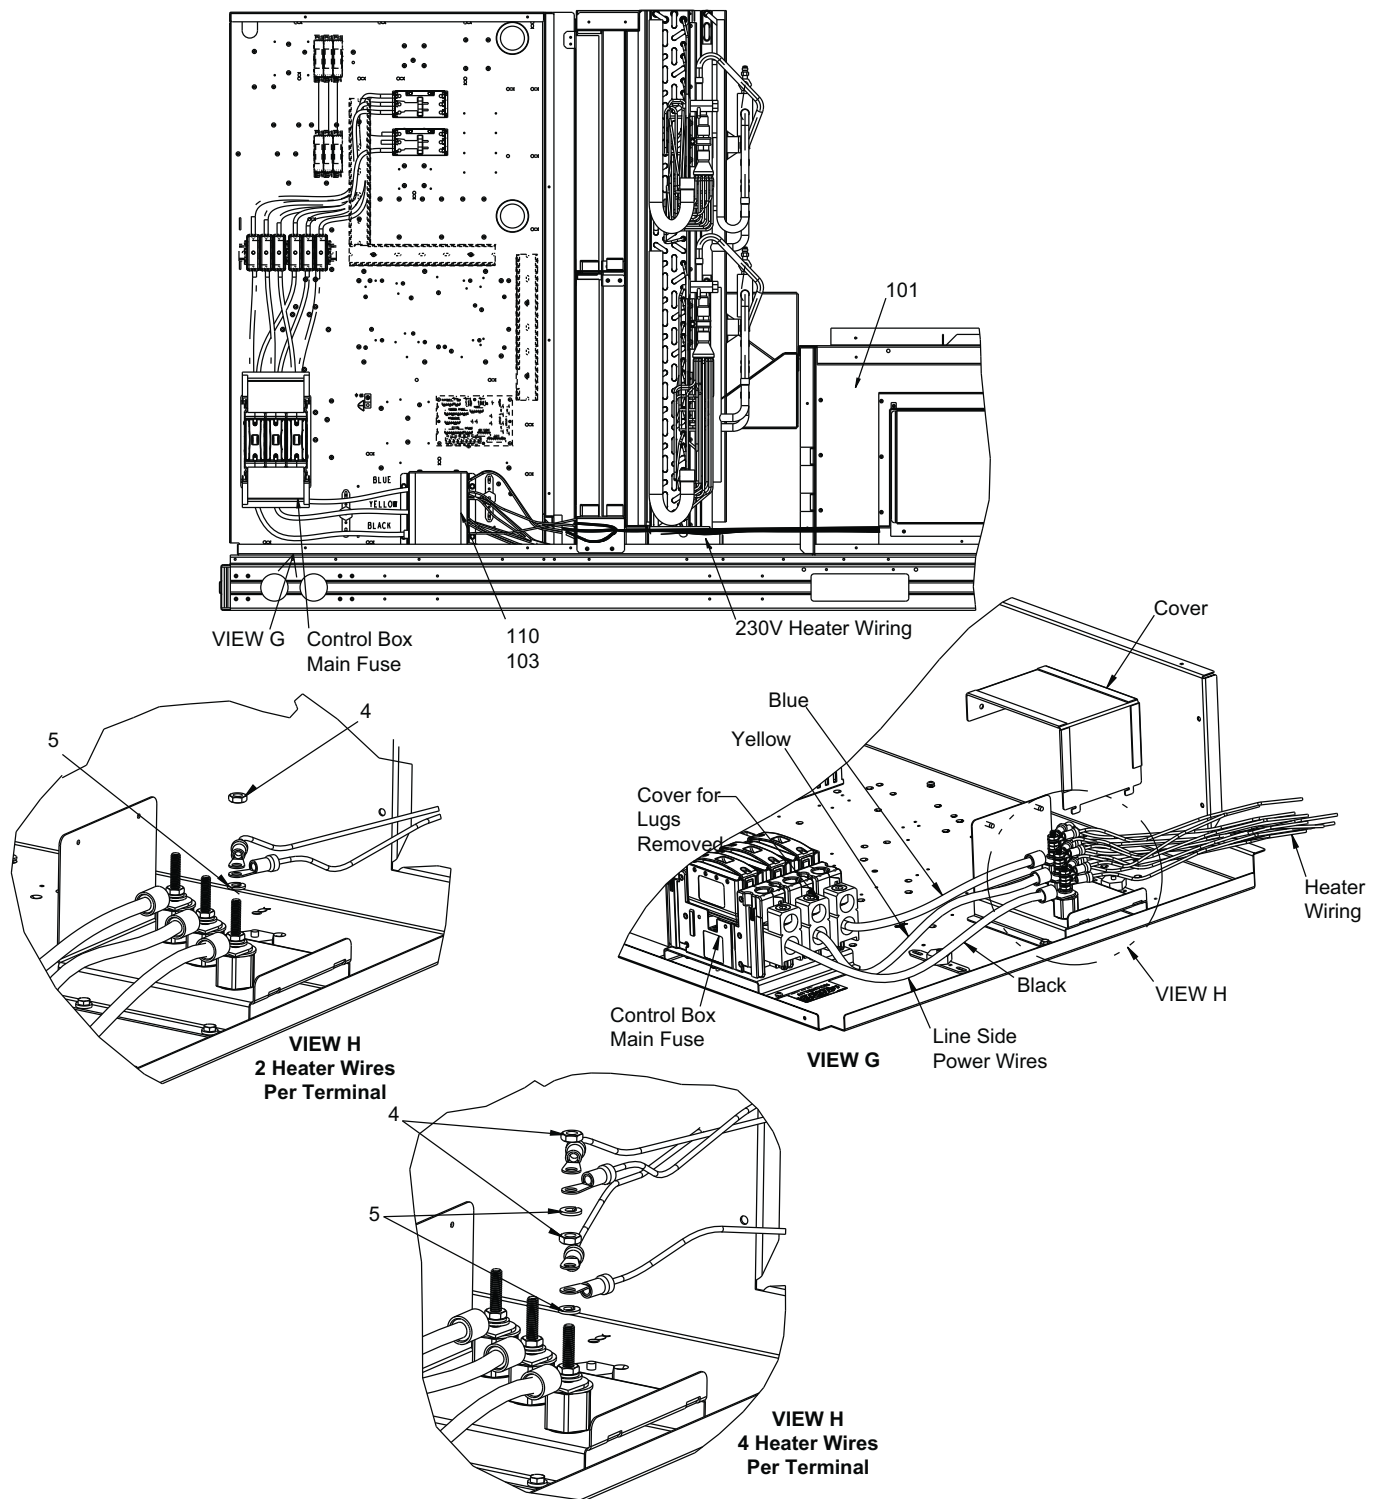

Fig. 51 — 230V Single Point Power Assembly Location (High SCCR)
1. Install terminal block assembly in location shown in Fig. 51.
For 4 wire/leg assembly: add lock washers (Item 5), turn bottom two wires so barrel of terminal is down as shown in Fig. 51. Add nut (Item 4) and tighten to 9-10 Nm (79 in.-lb). Add second lock washer (Item 5), the top two wires shall be installed with barrels “up.” Add second nut (Item 4) and tighten to 9-10 Nm (79-88 in.-lb).